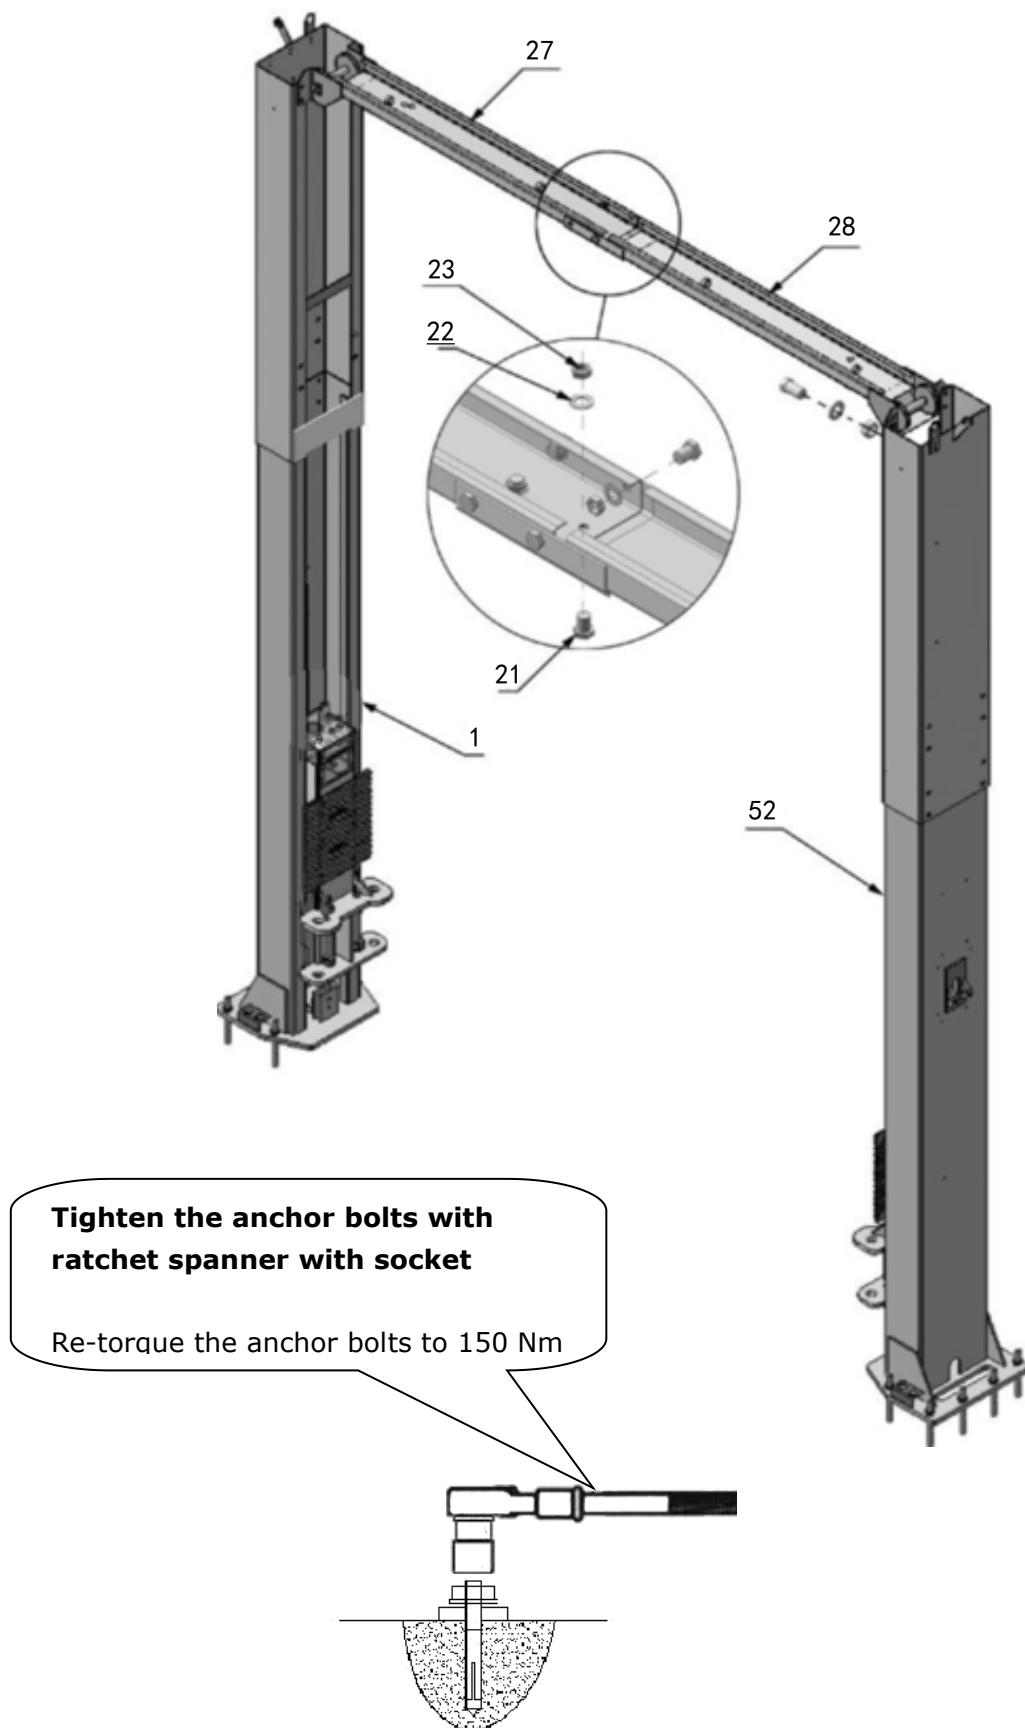

Fig. 22
2. Assemble overhead top beam, tighten the columns anchor bolts (**See Fig. 22**).